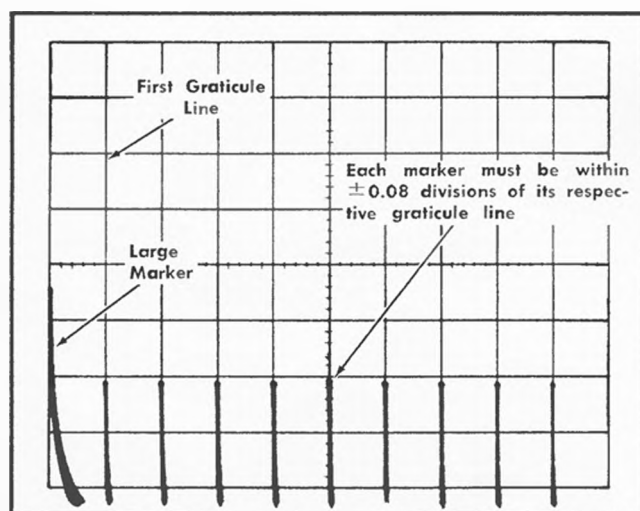

Fig. 6-45. Typical CRT display when checking magnifier timing and linearity.
- CHECK—CRT display for one small marker each division between the first and ninth graticule line (see Fig. 6-45). With the second marker positioned to the first graticule line, the tenth marker must be within  $\pm 0.16$  division of the ninth graticule line (timing within  $\pm 2\%$  when normal sweep calibration, step 38, is adjusted correctly; otherwise check within  $\pm 5\%$ ).
d. CHECK—Each marker in CRT display must be within  $\pm 0.08$  division of its respective graticule line (linearity within 1%; see Fig. 6-45).